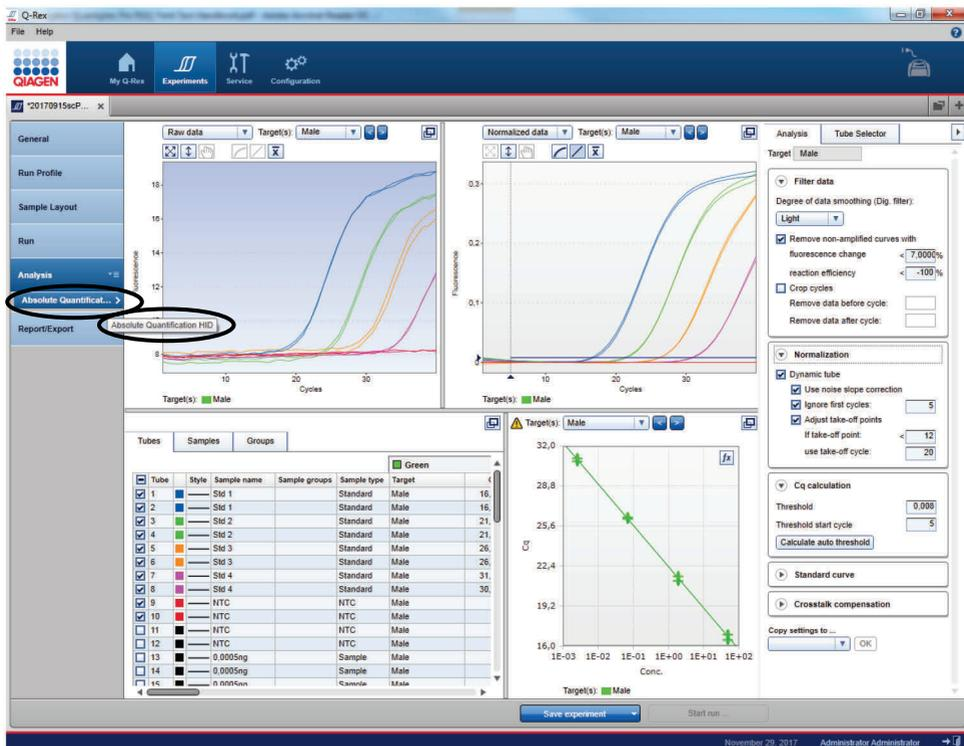

Figure 29. Setting analysis method in Q-Rex.
4. Confirm that the correct analysis method is selected (Absolute Quantification HID; Figure 29). If yes proceed to step 6, if not proceed to next step.